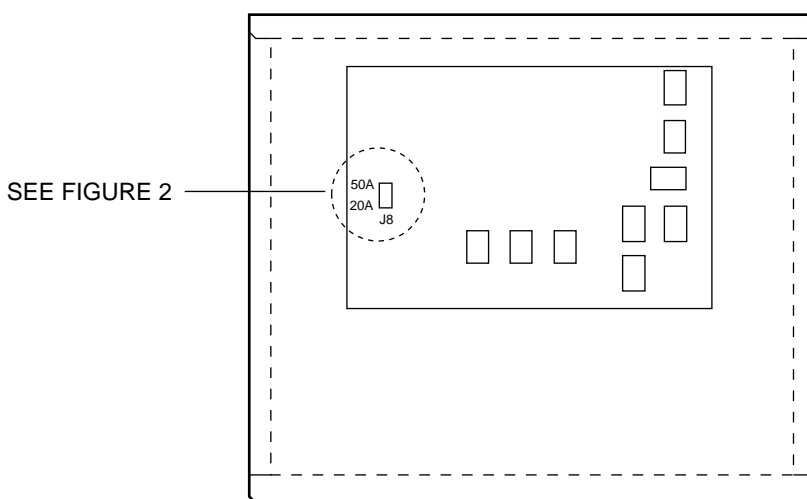

FIGURE 1
4. Move the jumper at circuit board location J8 from the 50A position to the 20A position. Refer to Figures 1 and 2.